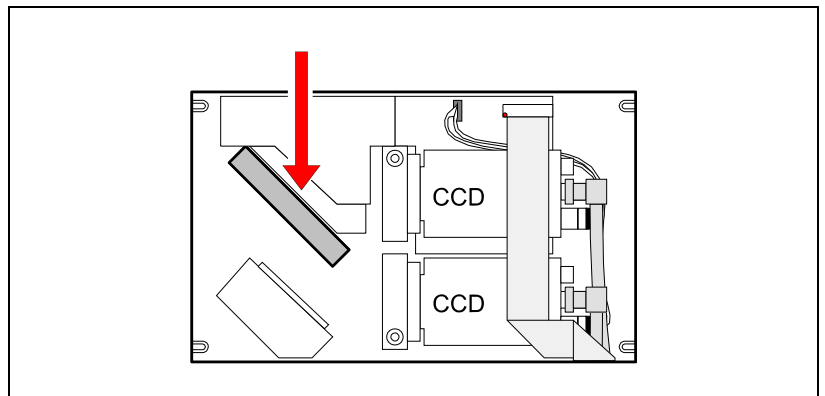

Figure 18-16. Dual vision camera outer mirror.
- If an dual vision centering camera is used, then clean the outer mirror (at the arrow in Figure 18-16) accessible without opening the camera cabinet.